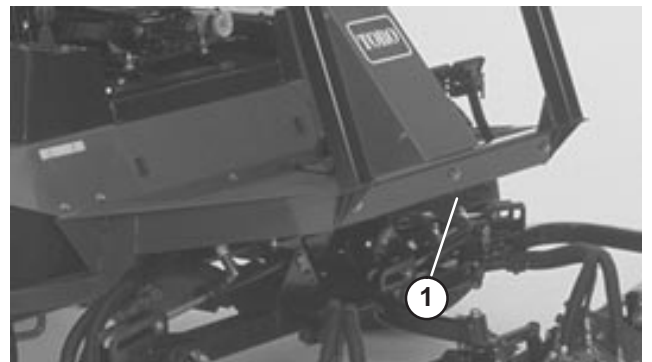

Figure 35
2. Attach a suitable chain, strap or cable to the center of the front frame member (Fig. 35).